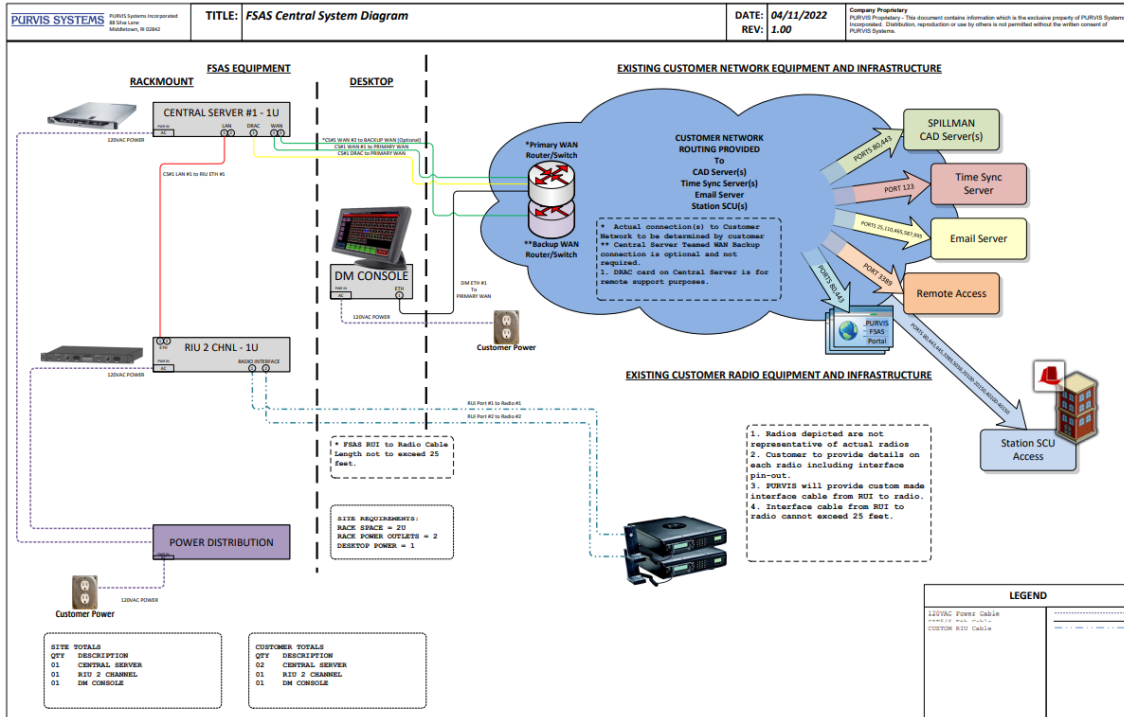

Figure 1 - FSAS Central Server with 1U 2 Channel RIU
- **Figure 1:** FSAS Central Server with 1U 2 Channel RIU